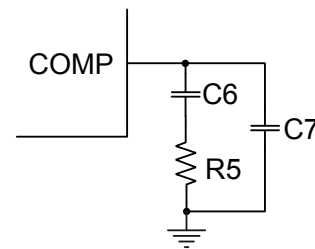

Figure 9: Compensation Network
The MPQ2918 employs current-mode control for easy compensation and fast transient response. COMP is the output of the internal error amplifier and controls system stability and transient response. A series resistor-capacitor (R-C) combination sets a pole zero combination to control the control system's characteristics (see Figure 9). The DC gain of the voltage feedback loop can be calculated with Equation (15):
The system has two important poles: one from the compensation capacitor (C6) and the output resistor of the error amplifier, and the other from the output capacitor and the load resistor (see Figure 9). These poles can be calculated with Equation (16) and Equation (17):